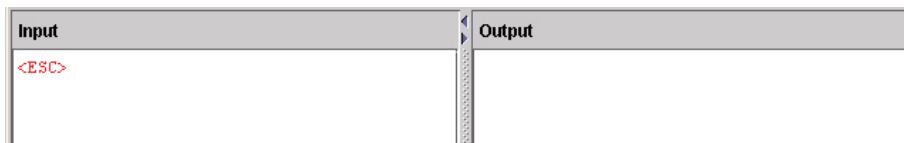

Figure 160 Mnemonics Entry Mode
40. Right-click the Input window and select **View ► Mnemonics**. To enter the Mnemonics entry mode. Notice the 1B changed to <ESC>. See Figure 160.